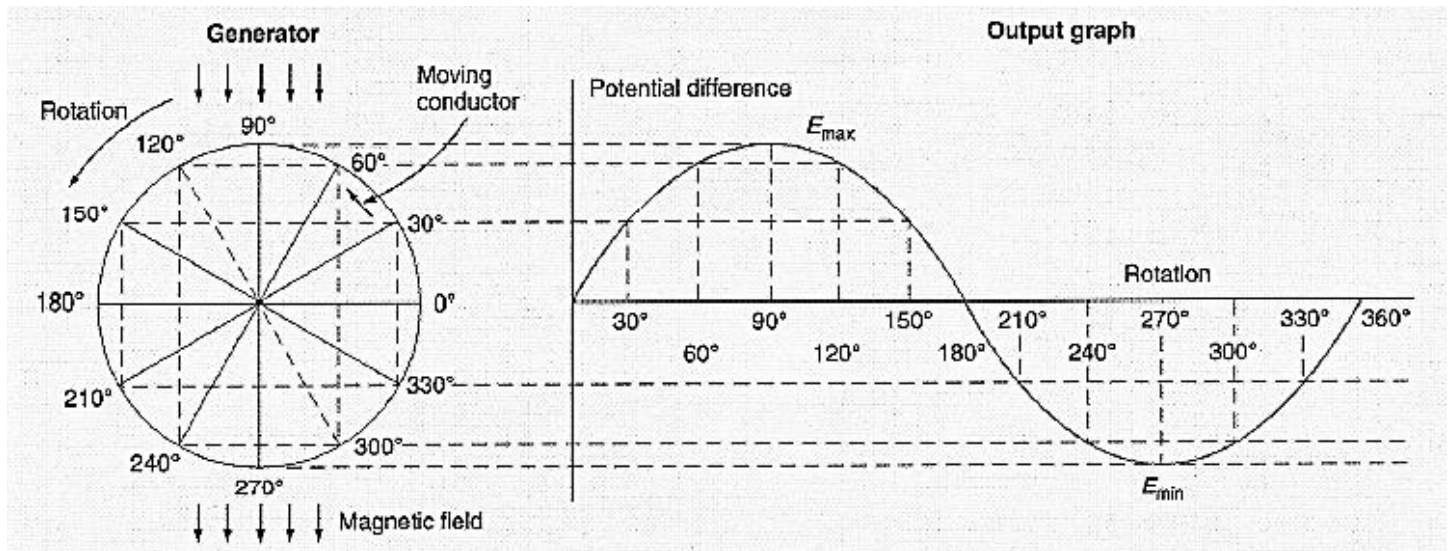

Figure 2.1: Output of an AC Generator
2-1 The current and potential difference in AC electricity alternate in a special way. A graph of either one has a shape called a *sine curve*. The curve has this shape because of the way the electricity is generated. Figure 2.1 includes a diagram of a very simple AC generator and a graph of the potential difference produced between the terminals.
- 2-3 Turning the rotor of a generator causes the wires in the rotor to move through the magnetic field at different angles. In Figure 2.1, the 12 positions of the moving wire are matched to the 12 points on the sine curve at the right. Every time the generator makes another rotation, the potential difference goes through another cycle of 360°.
2-5 Refer again to the rotation shown in Figure 2.1. During one rotation, many angles are formed. Each angle can be measured in degrees. However, certain angles are especially important, as explained below.